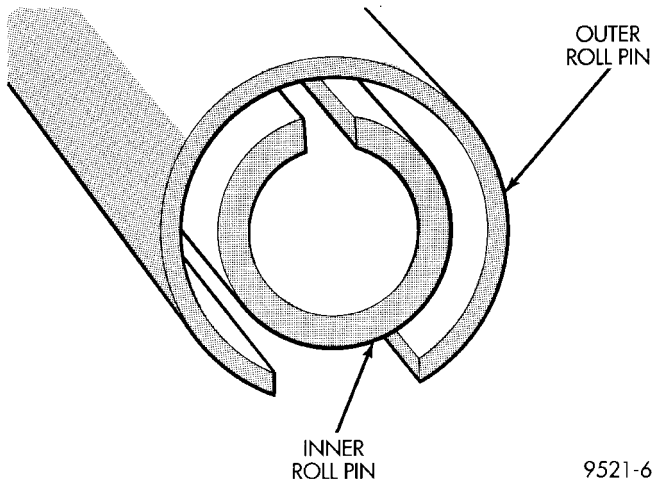

Fig. 21 Correct Orientation of Roll Pins
(1) For installation, reverse removal procedure. Replace the roll pins that were removed with new ones. The correct orientation for the roll pins is shown in (Fig. 21).